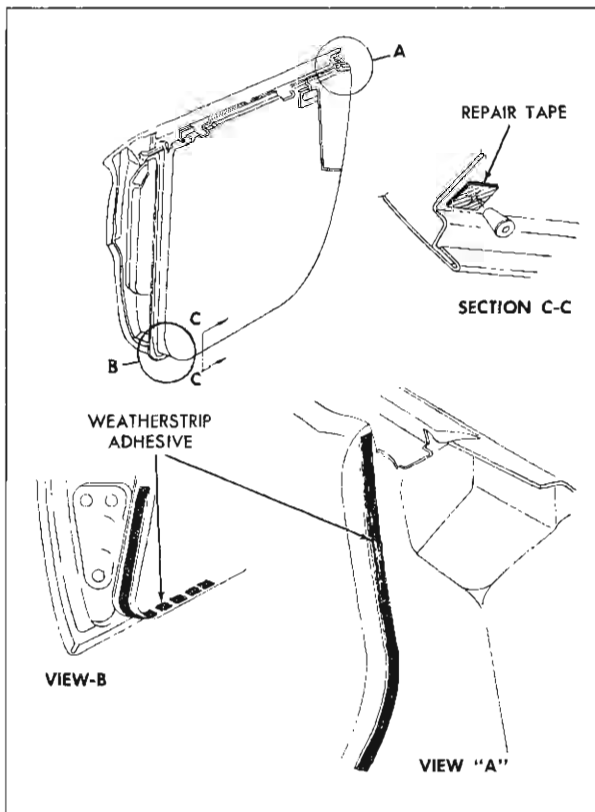

Fig. 3-31 Weatherstrip Adhesive Application
3. Carefully break cement bond securing weatherstrip to door. A flat-bladed tool, such as a putty knife, will prove helpful in breaking cement bond (see Fig. 3-31).
of cloth-backed waterproof tape over piercing and marking an "X" pattern slit in tape to accommodate sealing plug. If, after this operation, the plug is still loose; install a second piece of tape over the existing repair. This procedure can also be used to repair any water leaks that develop at sealing plug locations. A damaged sealing plug must be replaced (see Section "D-D" in Figure 3-31).
3. Clean off old cement from door to insure a clean cementing surface. Apply a bead of an approved weatherstrip adhesive to lock pillar facing of door and at lower front corner of door (see Views "B" and "C" in Fig. 3-31). When applying weatherstrip adhesive to lock pillar facing of door, begin application at belt line and continue down door for approximately seven to nine inches. If necessary, weatherstrip adhesive can also be applied to hinge pillar facing of door.